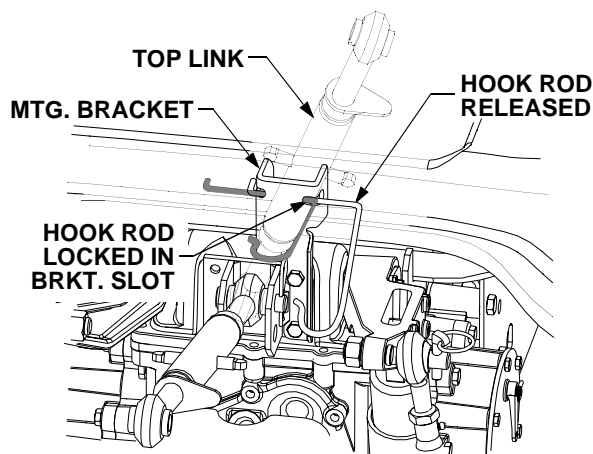

Figure 22
- While holding the top link upward, raise the hook rod and slide it fully to the *left* so that it locks in the upright position in the *right* slot of the mounting bracket. See Figure 22.